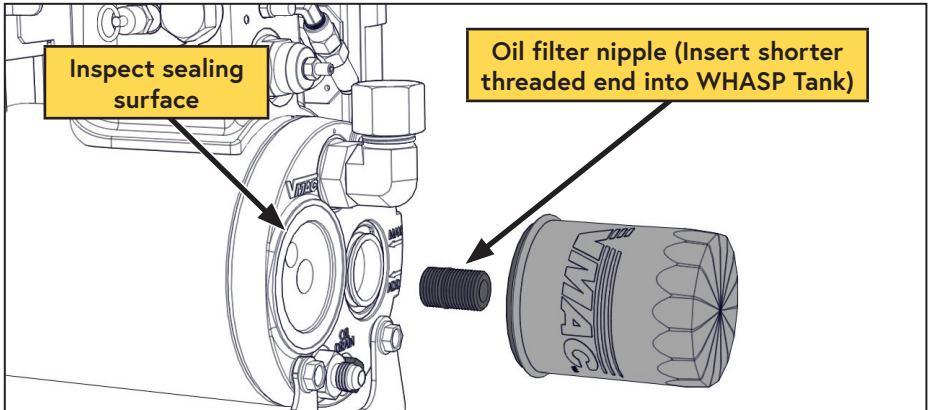

Figure 19 — Compressor oil filter
- \*To reinstall the nipple, thoroughly clean the threads and apply Loctite 242 (blue) to the end with the short threads and replace it in the tank (Figure 19).
- Clean the gasket sealing surface on the front of the tank and inspect it for damage. The surface must be free of old gasket material and smooth to ensure a good seal (Figure 19).